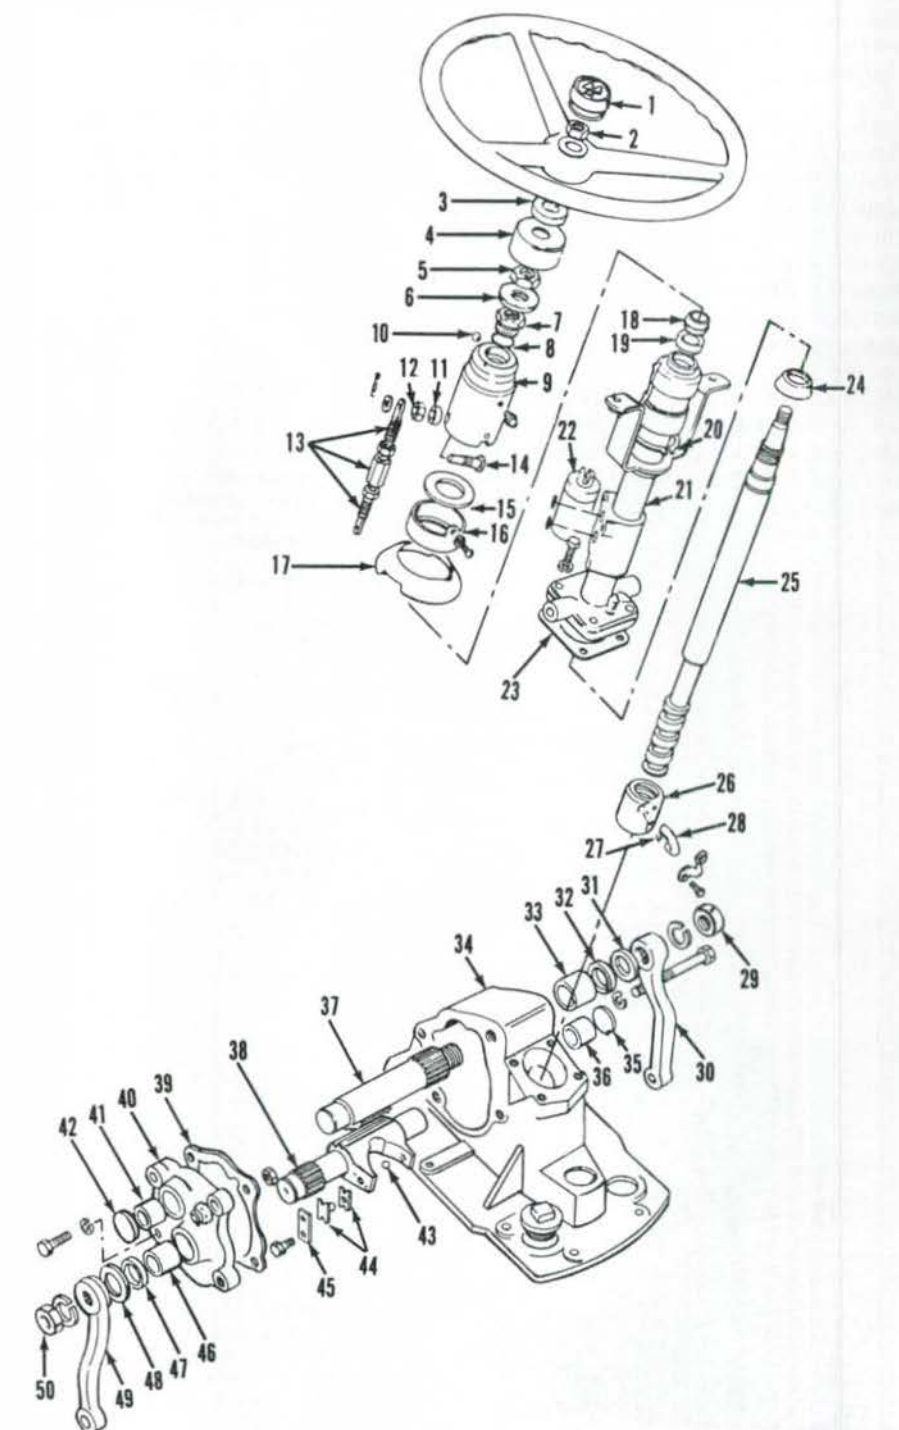

Fig. 18—Exploded view of steering gear assembly used on Models MF240 and MF250.
using a suitable puller. Disconnect battery cables and remove battery. Disconnect fuse box mounting panel. Tag and disconnect electrical wiring between tractor wiring harness and instrument harness. Remove lower instrument panel. Disconnect tachometer cable. Disconnect hand throttle lever from throttle linkage. Remove instrument panel mounting cap screws, then lift instrument panel off the steering column. Remove pitman arms (30 and 49—Fig. 18) using a suitable puller. Disconnect hydraulic lines from power steering valve. Remove cap screws attaching steering box to the side support brackets and to the transmission housing. Shift transmission into neutral, then remove steering gear box with shift levers from the tractor.
14. OVERHAUL STEERING GEAR. To disassemble the removed unit, first disconnect and remove control valve (22—Fig. 18) from steering column. Remove plug from steering column (21) and drain oil from housing. Unbolt and remove cover plate (40) from housing. Withdraw the secondary pitman shaft (37). Remove retainer plate (45) and shims (44). Unbolt and remove steering column assembly from housing. Remove primary pitman shaft (38) and steel ball (43). Unscrew ball nut (26) from steering shaft (25).